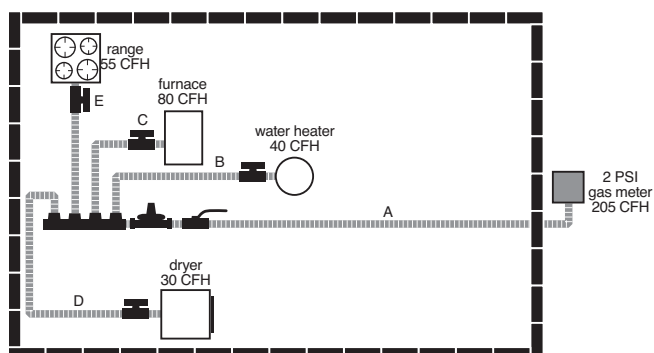

Figure: 3-3
Elevated pressure systems are commonly installed in residential installations with 2 PSI and up to 5 PSI for commercial installations. These systems are usually equipped with one or more line pressure (LP) regulators, which convert pounds of pressure to inches. Line pressure regulators are followed by a manifold, and runs are then connected to each appliance. It is possible that these runs may contain tees branching off to an additional appliance where gas loads permit (Figure 3-3).